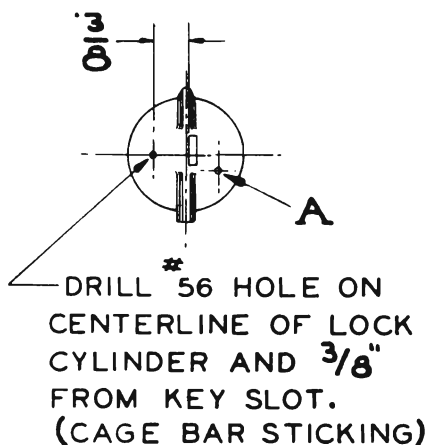

Fig. 12-40
- Drill a .0465" (#56 drill) diameter hole $\frac{3}{8}$ " deep in lock cylinder as shown in Fig. 12-40.